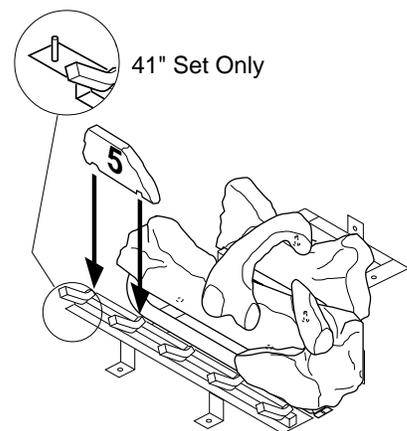

Figure 54 - Installing Log No. 5
5. Place log #5 (small log) onto the front left part of the grate making sure the notches fit over the prongs of the grate (and hole over pin on 41" set). See Figure 54.